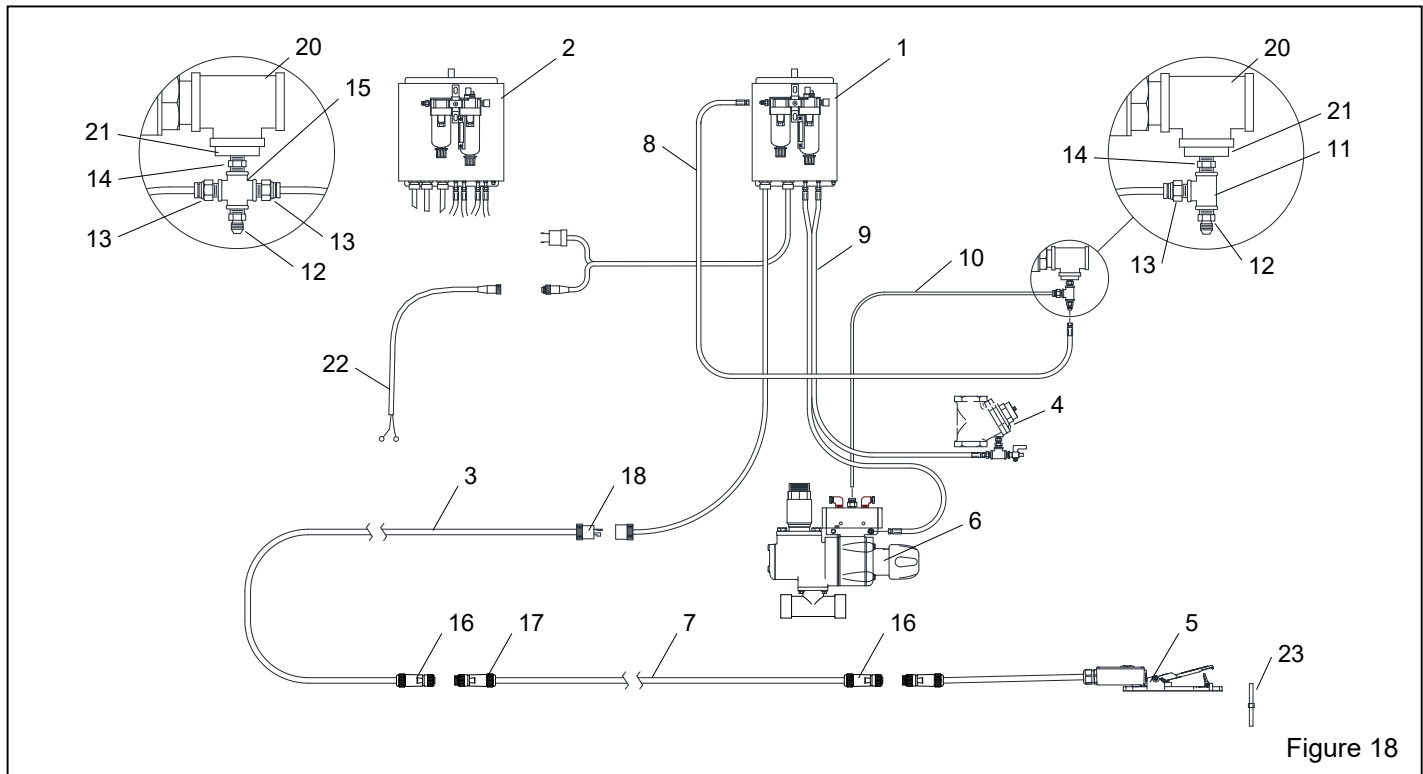

Figure 18
8.3 GritWizard Electric Remote Control System Replacement Parts – Figure 18